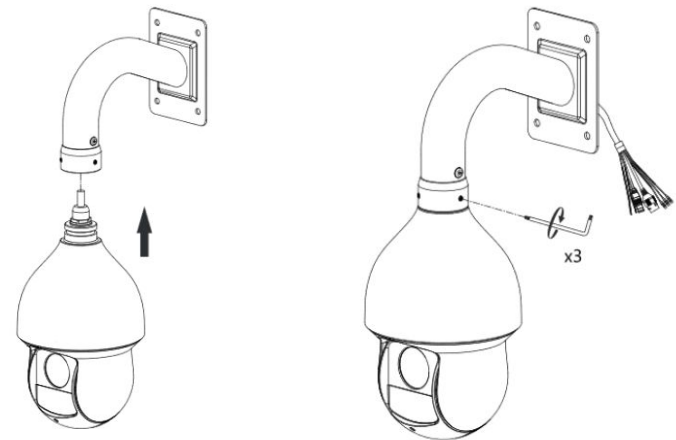

Figure 2-4
Step 4 Insert the camera into the adaptor/ mount and tighten the set screw. See Figure 2-4.